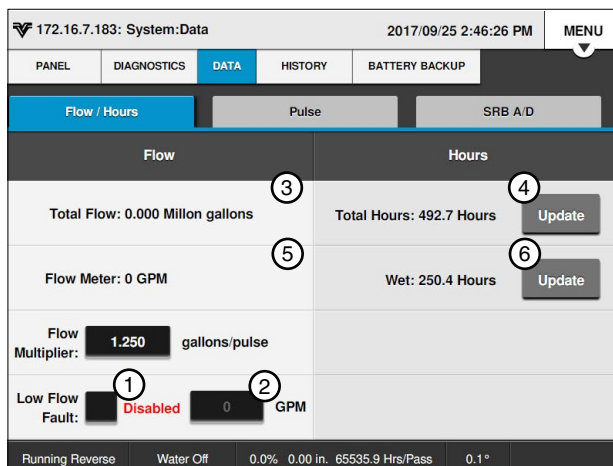

Figure 58-1 1. Low Flow Limit Checkbox 2. Low Flow Limit 3. Total Hours Status 4. Update Total Hours 5. Wet Hours 6. Update Wet Hours
A Low Flow system fault can only occur if the system is above the low pressure setting, the Low Flow Limit feature is on, and a flow meter is installed. Refer to Figure 58-1.
1. Push **Menu, System, Data,** and **Flow/Hours** to display the Flow/Hours screen. Refer to Figure 58-1.